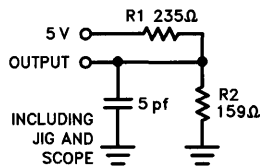

Figure 1b
8. t_{HZCS} is tested with load shown in Figure 1b. Transition is measured at steady state High level – 500 mV or steady state Low level + 500 mV on the output from the 1.5V level on the input.